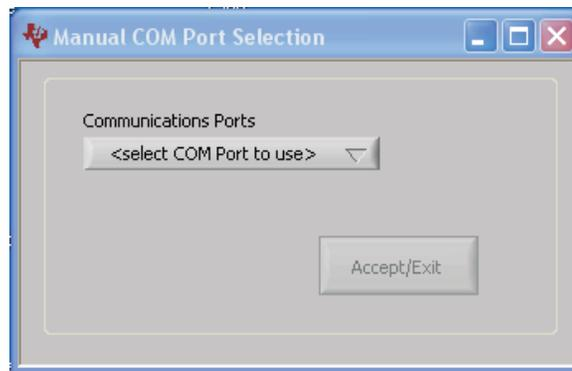

Figure 10. Manual COM Port Selection Window
- If the *Rescan* option is unsuccessful, you can manually set the COM port to connect to the EVM. The Manual COM Port selection window is shown in Figure 10.